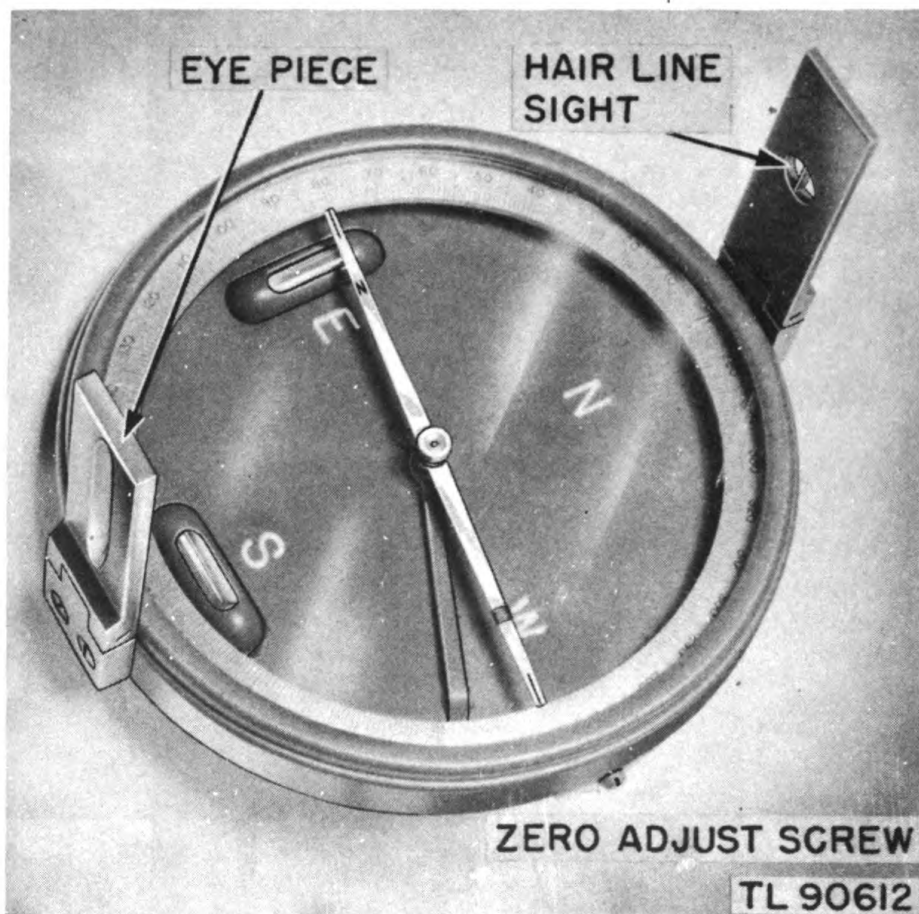
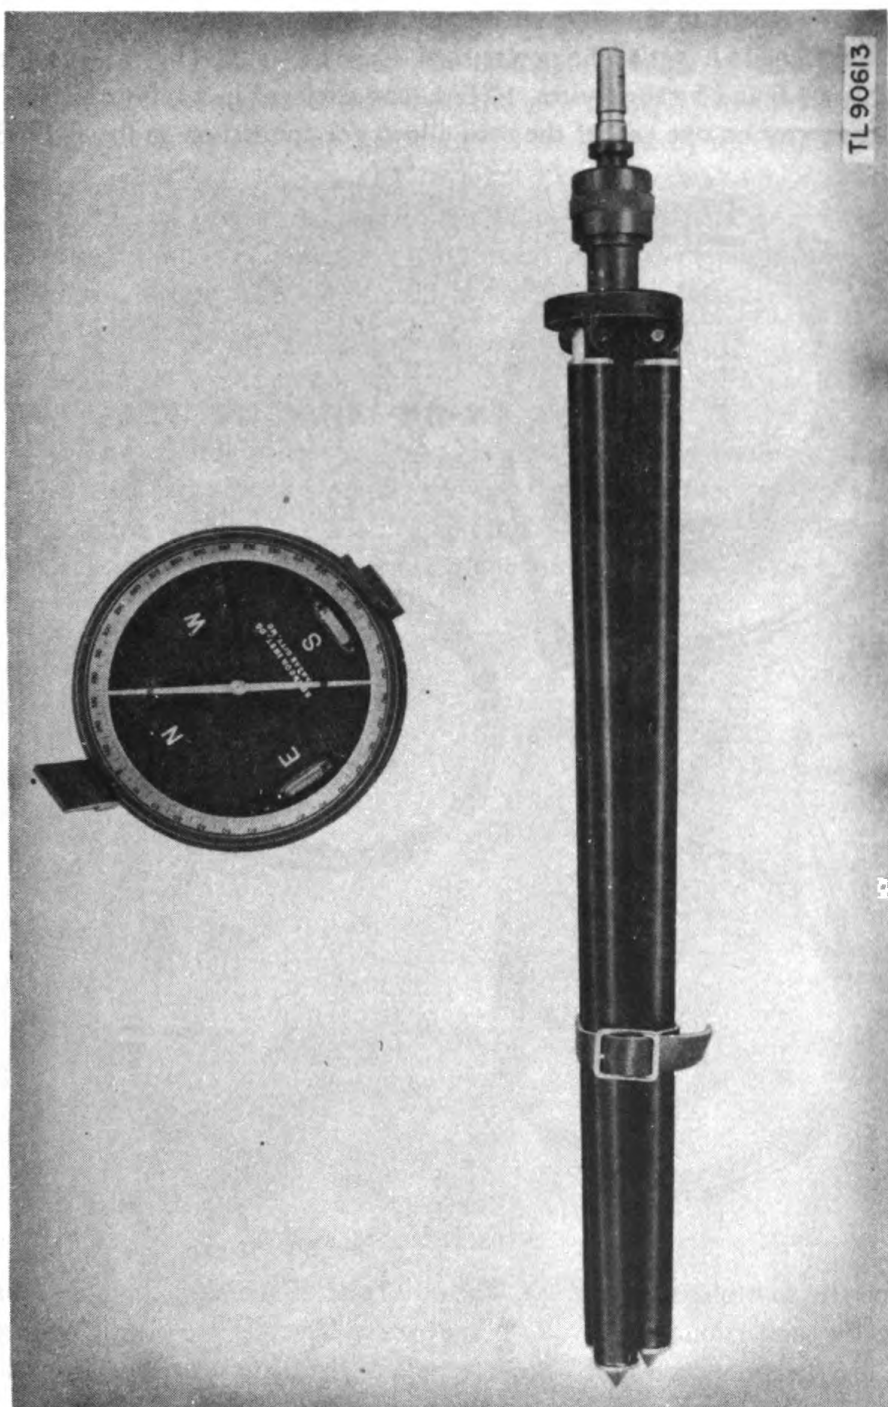

Figure 9. Compass MC-323.
Figure 10. Compass and tripod.
a. Compass MC-323 (fig. 9) and tripod (fig. 10) are issued with each radio beacon for orienting the radiation pattern. The 5-inch compass with a 4-inch pointer and azimuth calibration reading from 0-360° counterclockwise, has a